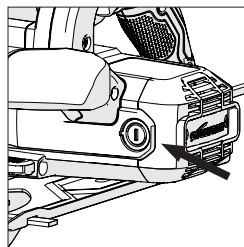

Fig. 17
- Unscrew the plastic caps found at the back of the motor housing. (**Fig. 17**) Be careful as the caps are spring-loaded.